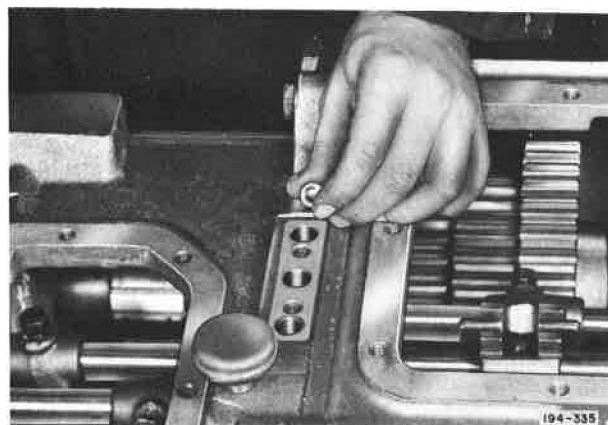

Figure 5-213. Installing Shift Rail Poppet Ball
4. Install shift rail poppet balls, with springs in holes provided at top of main case. See Figure 5-213 and 5-214. In early production units where poppet ball pins were incorporated, install pins as shown in Figure 5-215.